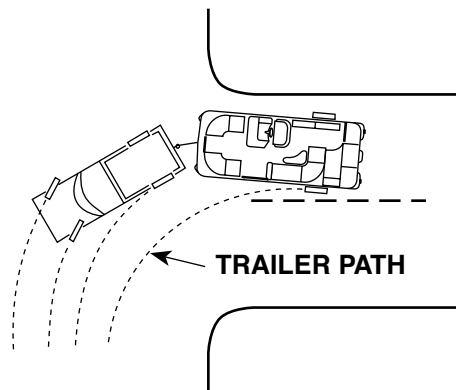

FIGURE 4-2 TURNING WITH A TRAILER
7. Be aware that a turn for the trailer is wider than a turn for the tow vehicle (Figure 4-2). When making a turn, be careful that your trailer does not strike another vehicle or object.